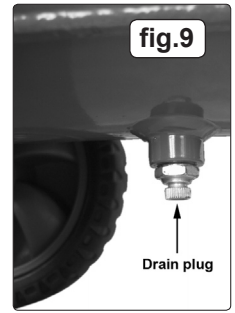

fig.9
- a) Drain condensation by opening the valve located under the tank (fig.9). Place a container under the valve and open the valve by turning anti-clockwise.